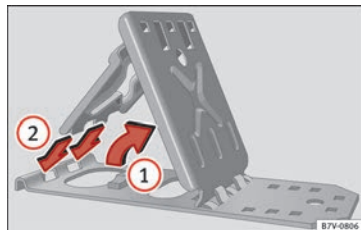

Fig. 100 To unfold the foldable wedges.
- Lift the base plate » **Fig. 100** ①.
- Insert the two "tabs" of the mounting plate into the long openings on the base plate ②.